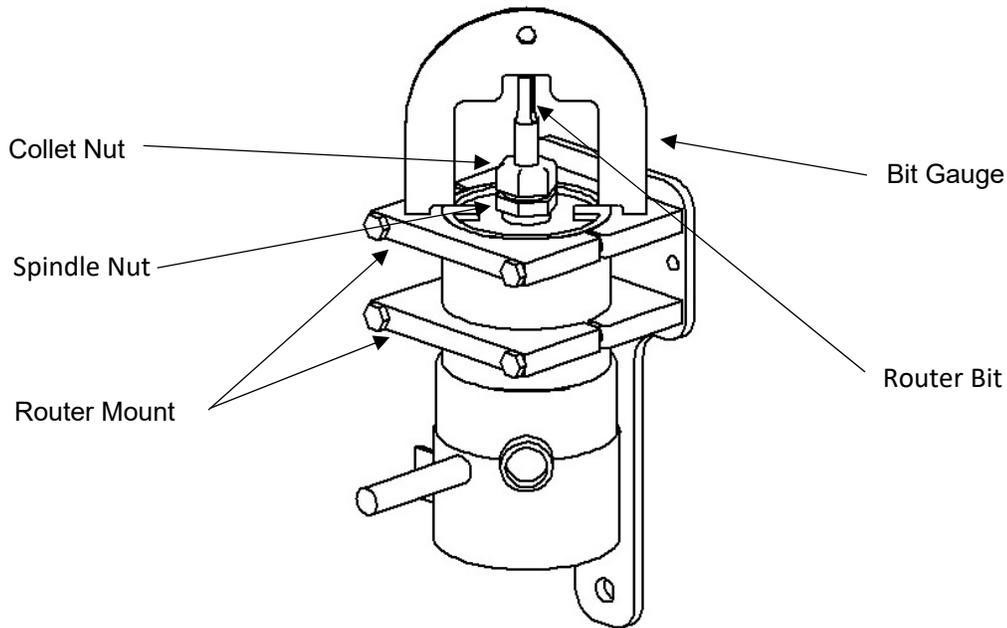
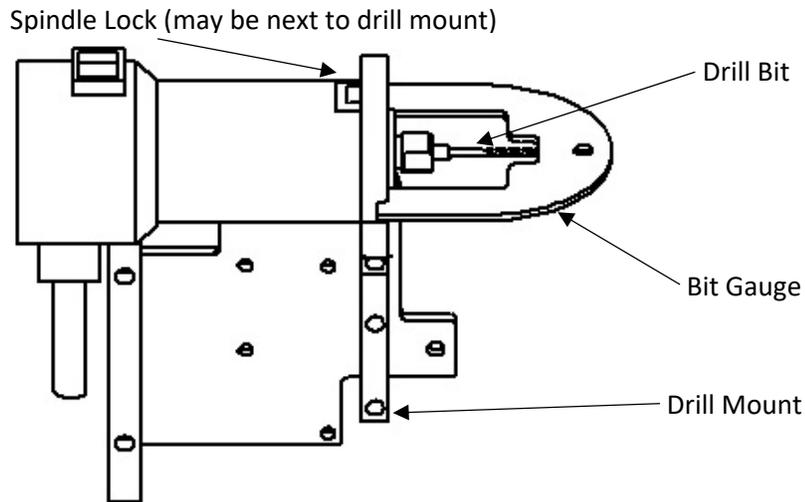

Figure 12: Installing a Router Bit
Figure 13: Installing a Drill Bit
3. Using the wrenches provided, loosen the collet nut (by turning counter clockwise when looking “down”) (Figure 12), while holding spindle nut. Remove the router bit.
5. Position the Bit Gauge (Figure 12) against the router mount (Figure 12) and pull the router bit up against the bottom of the Bit Gauge.
**Always use the supplied Bit Gauge (Figure 12 & Figure 13) when installing bits.**
Always use supplied Bit Gauge (Figure 12 & Figure 13) when installing bits. Failure to do so could result in the bits colliding with the machine table or the drill when the machine is cycled. If your Bit Gauge is missing or damaged contact Safety Speed for a replacement (763-755-1600).
2. Using the wrench provided, loosen the collet (by turning nut counterclockwise) (Figure 13) while holding the (red) spindle lock and remove drill bit.
5. Position the Bit Gauge (Figure 13) against the Drill Mount (Figure 13) and pull the drill bit up against the bottom of the Bit Gauge.
**NOTE: If the Bit Gauge is not available, the drill bit should extend 2-7/8" from the top of the "Drill Mount". Measure from the top of the router mount to the top of the bit with an accurate and square measuring device. Or call SSM for a temporary solution (763)-755-1600.**
Always use supplied Bit Gauge (Figure 12 & Figure 13) when installing bits. Failure to do so could result in the bit colliding with the machine table or the router when the machine is cycled. If your Bit Gauge is missing or damaged contact Safety Speed for a replacement (763-755-1600).